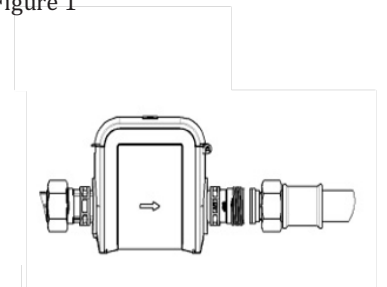

Figure 2
2. Check for the proper distance between the pipe unions to avoid mechanical stress (Figure 2).